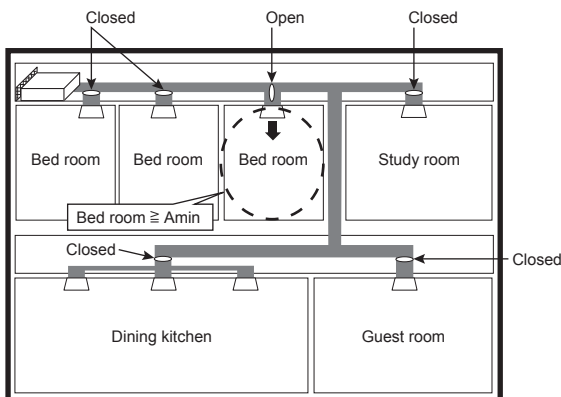

Fig. 2-20
- The area of each room must be A_{min} or larger. (See Fig. 2-20)